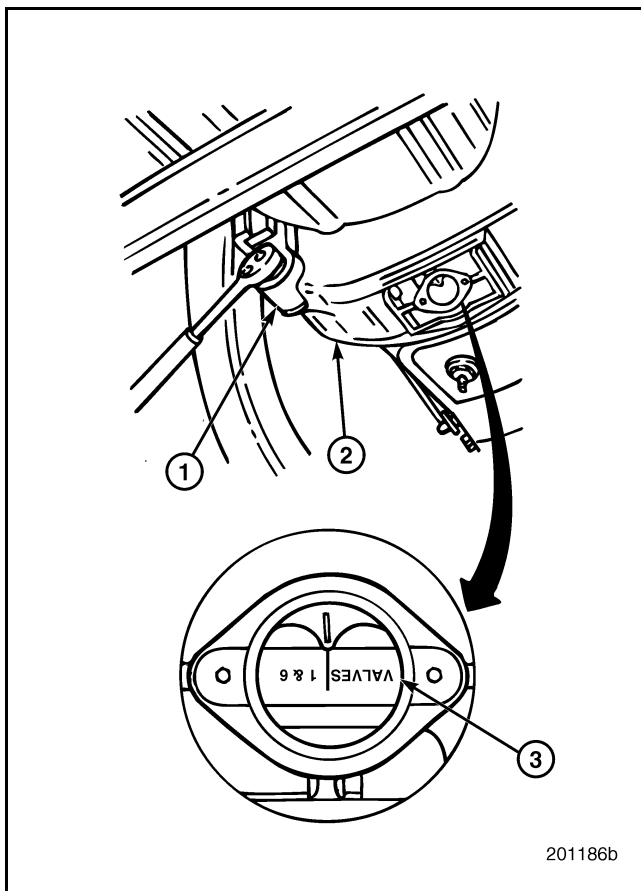

Figure 560 — Valve Adjustment Markings on Flywheel
- Using a barring socket, manually rotate the engine crankshaft (Figure 560) in normal rotation direction 120 degrees until the center of the timing pointer hole in the flywheel housing aligns with the "2 and 5" mark on the flywheel and the No. 5 piston is on the compression stroke.